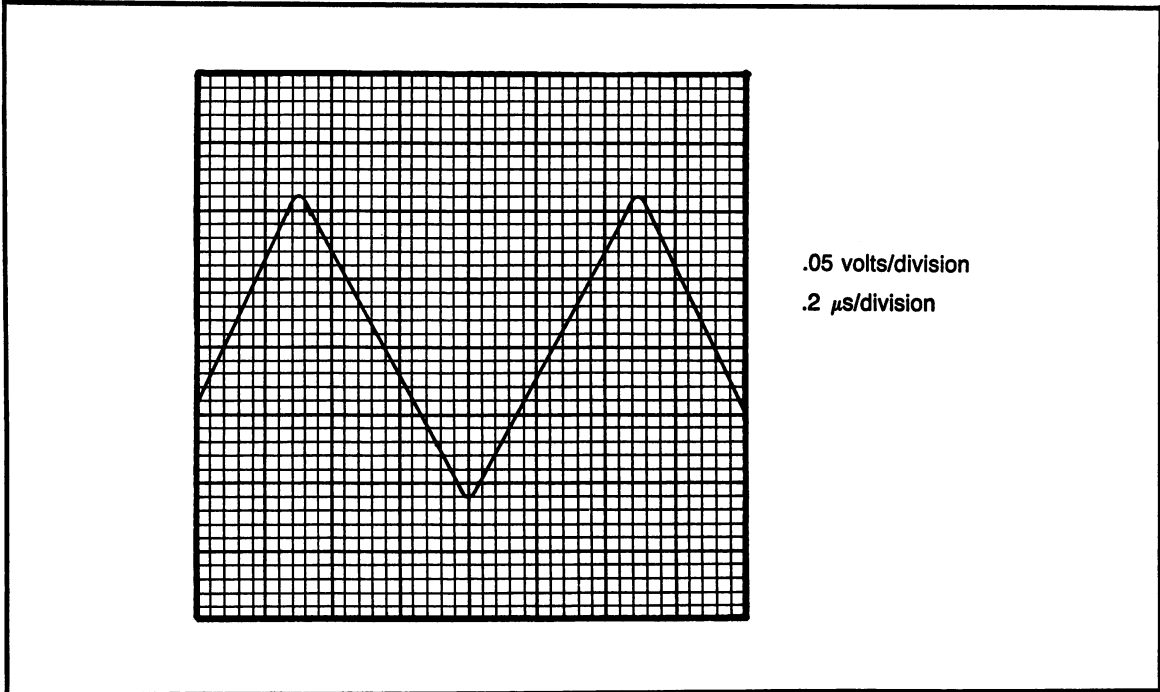

Fig. 11-17. Problem 33: .05 volts/division .2 μ s/division.
- (33) Figure 11-17; a) p-to-p voltage b) frequency